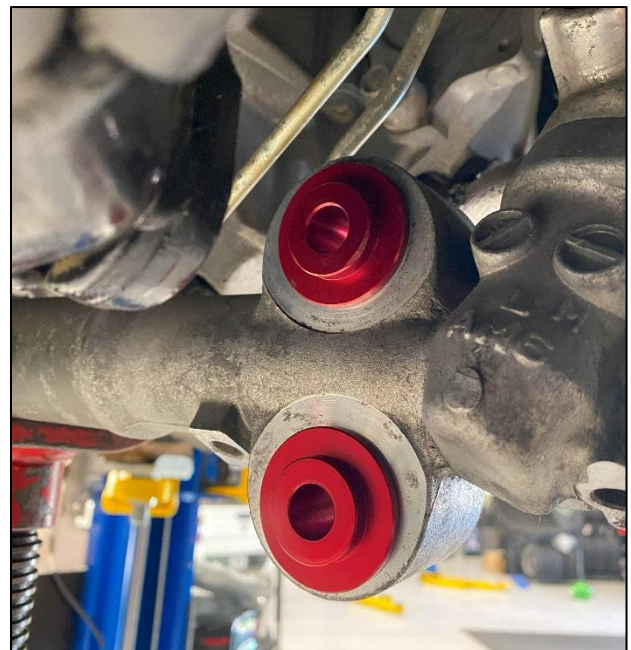

Figure 8
15. Remove your Front Bushings from the freezer. Install them into the front of the Steering Rack (facing the front of the car). They can be pressed in by hand, or tapped in with a hammer if necessary. The Front Bushings have a lip on the outside surface, as shown in *Figure 8*.